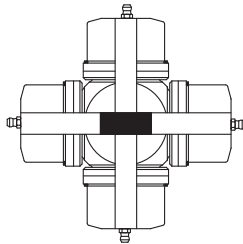

Figure 7 — Use the installed grease fittings for lubricating journal cross assemblies
- 6.13 Journal Cross Assemblies: The journal cross assemblies may be re-lubricated via a grease fitting located in the middle of the cross or on each bearing cap depending on the lubrication setup. The location of the grease fittings is shown in Figure 7. Each of the bearings must be purged until all old grease is removed, and fresh grease can be seen exiting the seals.